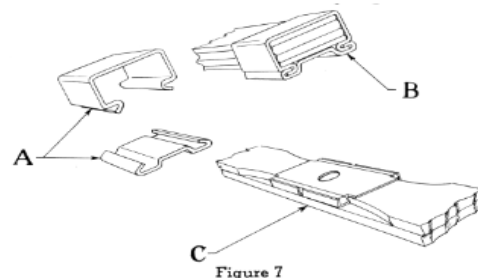

Figure 7
NOTE: The second leaf of the front springs is made in two pieces. The outer end of each piece is formed around the eye of the main leaf, while the inner ends of each are guided by a plate (Sketch C), Figure 7, through which the center bolt passes. This plate should be assembled between the second and third leaves with the flanges upward to guide the inner ends of the second leaf.
45. Put service spring clips (Sketch A), Figure 7, over spring leaves from top and slide clip cover in place on bottom (Sketch B), Figure 7.